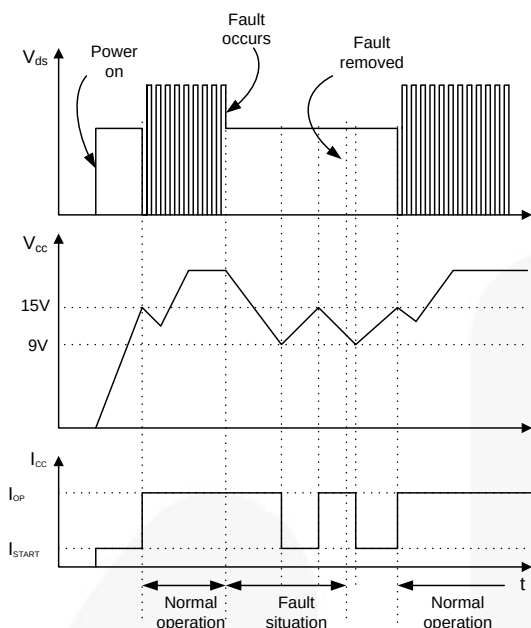

Figure 33. Auto Restart Mode Protection
- **Auto-Restart Mode Protection:** Once the fault condition is detected, switching is terminated and the SenseFET remains off. This causes  $V_{CC}$  to fall. When  $V_{CC}$  falls to the under voltage lockout (UVLO) stop voltage of 9 V, the protection is reset and the FSCQ series consumes only startup current (25  $\mu$ A). Then, the  $V_{CC}$  capacitor is charged up, since the current supplied through the startup resistor is larger than the current that the FPS consumes. When  $V_{CC}$  reaches the start voltage of 15 V, the FSCQ series resumes its normal operation. If the fault condition is not removed, the SenseFET remains off and  $V_{CC}$  drops to stop voltage again. In this manner, the auto-restart can alternately enable and disable the switching of the power SenseFET until the fault condition is eliminated (see Figure 33).